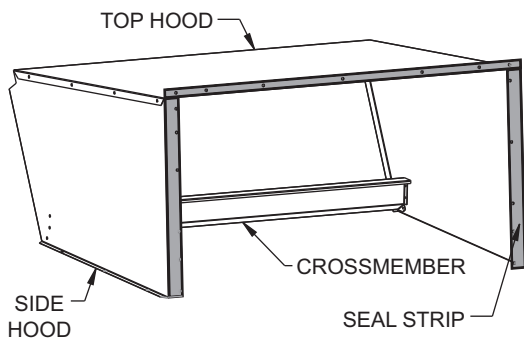

Fig. 28 — Adding Seal Strip to Hood Top and Side Hoods
5. Apply black seal strip (provided) to mounting flanges of hood sides being sure to cover mounting holes. See Fig. 28.
6. Apply black seal strip (provided) to back of hood top mounting flange. Seal strip of hood top mounting flange must press tightly against seal strip of hood side mounting flanges. See Fig. 28.